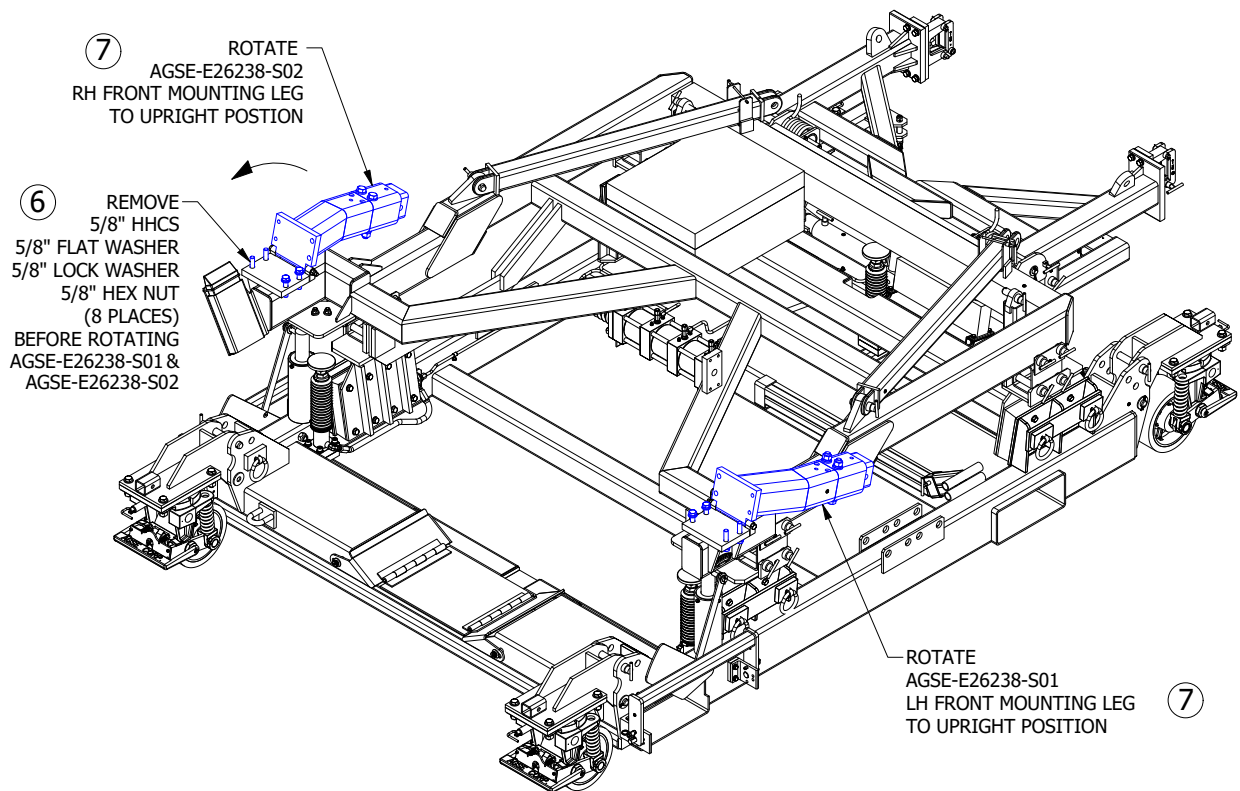

Figure 5.1-3
- 6) Remove eight (8) 5/8" hex head cap screws, eight (8) 5/8" flat washers, eight (8) 5/8" lock washers and eight (8) 5/8" hex nuts. (Illustration Figure 5.1-3).
- 7) Rotate AGSE-E26238-S01 LH front mounting leg and AGSE-E26238-S02 RH mounting leg to the upright position. (Illustration Figure 5.1-3).